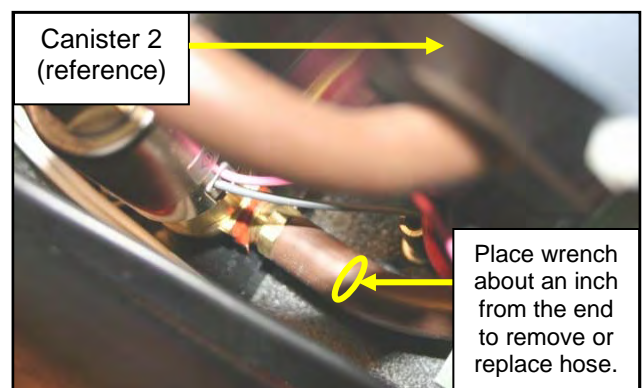

Figure 3. DISCONNECTING THE AIR HOSE.
5. Using a tubing wrench or vacuum tube pliers, hold the air hose about an inch in from the end of the hose (in front of canister 2), then pull gently to disconnect the air hose from the fitting. Refer to Figure 3. With both the mounting base and the air hose disconnected, remove the existing compressor from the machine.